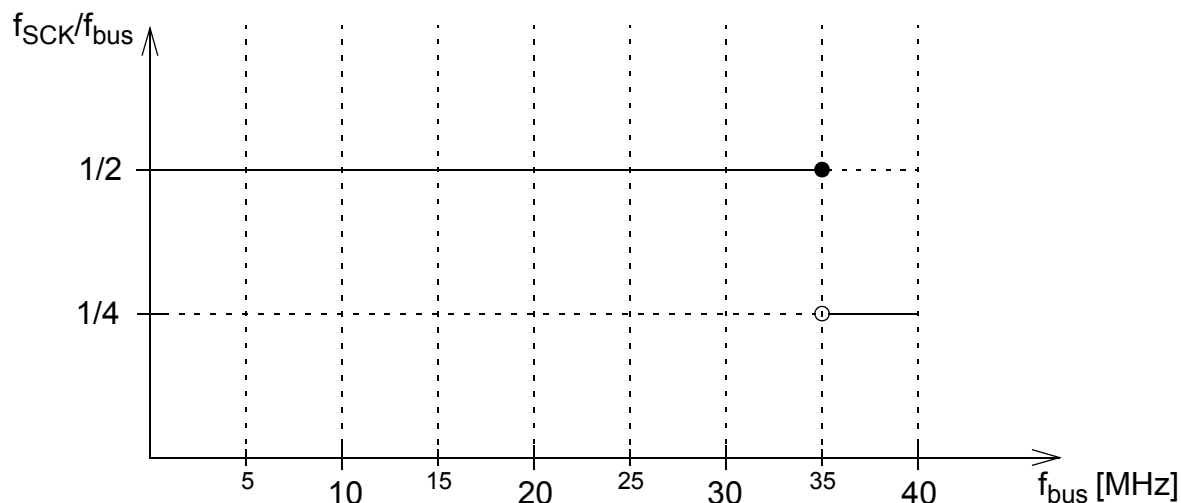

Figure L-3. Derating of maximum  $f_{SCK}$  to  $f_{bus}$  ratio in Master Mode
1. pls. see **Figure L-3.**
In Master Mode the allowed maximum  $f_{SCK}$  to  $f_{bus}$  ratio (= minimum Baud Rate Divisor, pls. see SPI Block Guide) derates with increasing  $f_{bus}$ , please see **Figure L-3**.